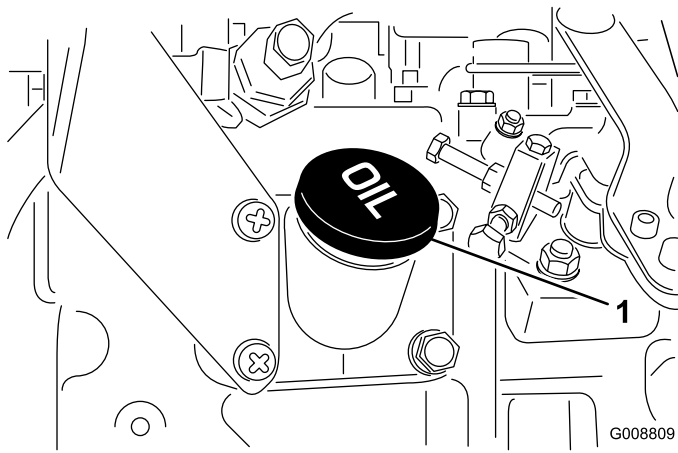

Figure 33
4. If the oil is below the safe range, remove the fill cap (Figure 33) and add oil until the level reaches the FULL mark. **Do not overfill.**